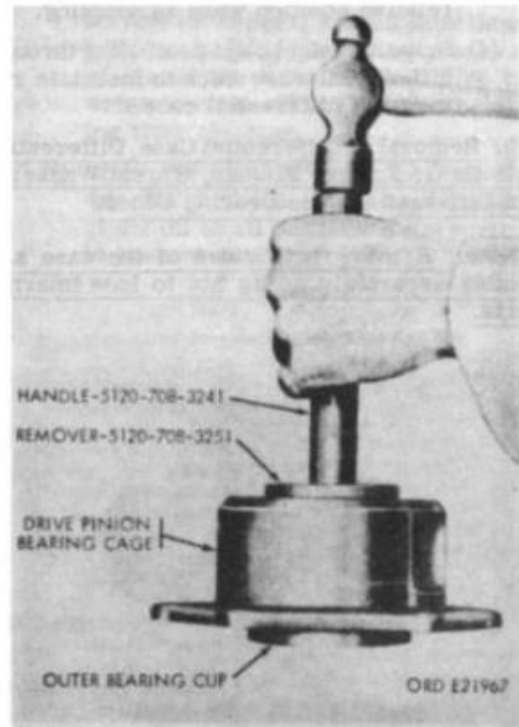

Figure 85. Removal of inner and outer bearings and bearing cups
**68. Disassembly of Helical Drive Pinion Bearing Cage (Fig. 85)**